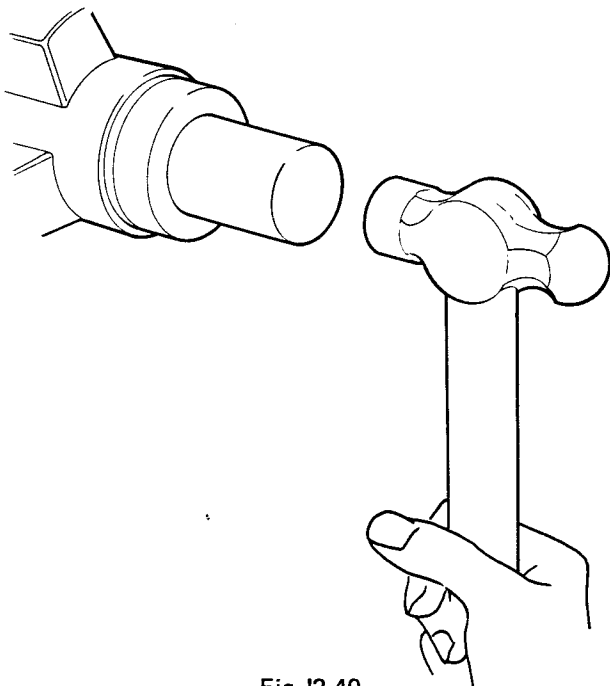

Fig J2.40
- (14) Refer to Fig J2.40. Use special tool RO1008 to drift in the seal.